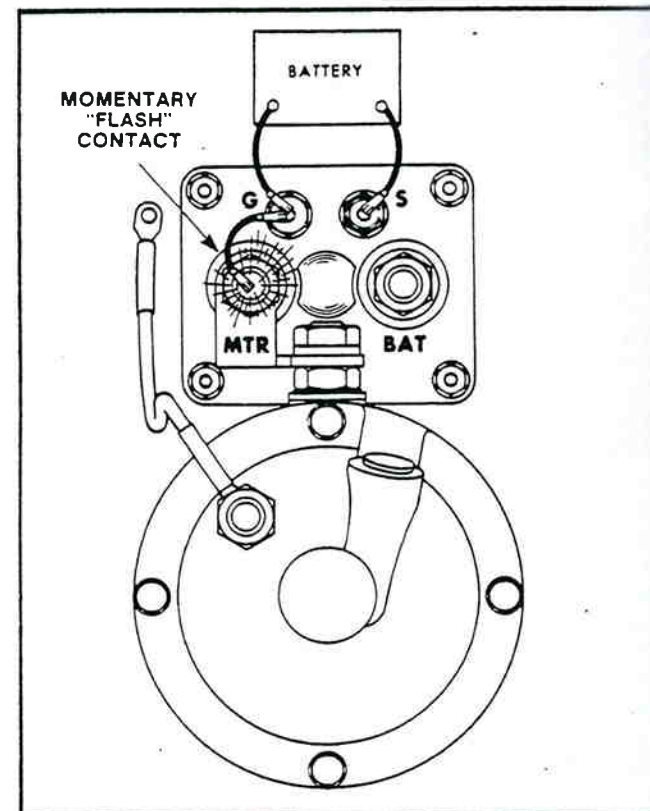

Figure 7-43. Connections for Checking Pinion Clearance (40MT & 50MT).
1. Make connections as shown in figure 7-43.